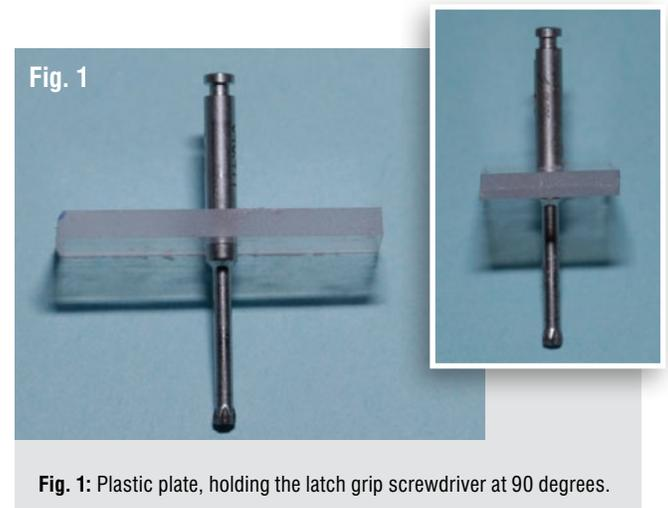

Fig. 1: Plastic plate, holding the latch grip screwdriver at 90 degrees.
2. In the center of the plastic plate prepare a hole 2.1mm in diameter (this is the size of a latch grip bur used by most implant companies for their screwdriver shanks). The hole must be perpendicular to the plate (Fig. 1).